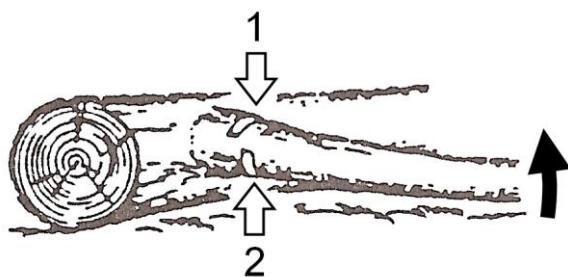

Figure 20
CUTTING THE LIMB OF A FALLEN TREE (Fig.20)
- Before starting work, check the direction of bending force inside the log to be cut. Then make the initial cut from the bent side (Fig.20 No.1) and finish by sawing from the opposite side (Fig.20 No.2). Always finish cutting from the opposite side of bending direction to prevent the guide bar from being caught in the cut.